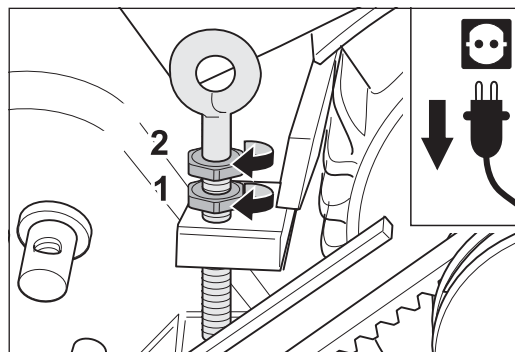

Fig. 110 First tighten the lower nut (1), then the upper nut (2) at the eye bolt at the motor.
- 5 First tighten the lower nut (fig. 110, 1), then the upper nut (fig. 110, 2) at the eye bolt at the motor.